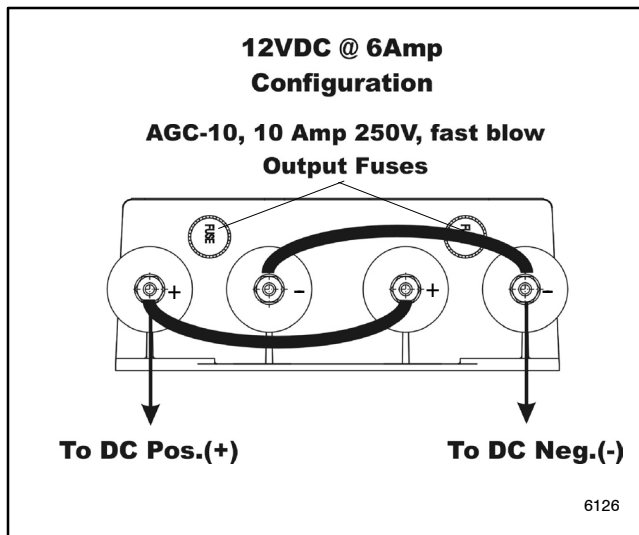
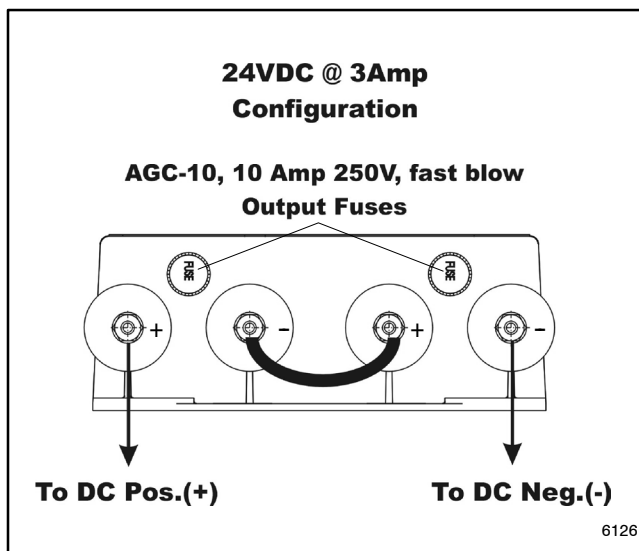

Figure 6-4 12-Volt Battery Charger Connections
Figure 6-5 24-Volt Battery Charger Connections
8. Connect the jumpers as shown in Figure 6-4 for a 12-volt system or Figure 6-5 for a 24-volt system, reconnecting the jumper lead for 24-volt systems as shown. Place the jumper lead terminal between the two flat washers on the battery charger terminal.
Note: Battery chargers are configured for 12-volt systems at the factory. For 24-volt systems, reconnect the jumper lead as shown in Figure 6-5 and discard the second jumper lead.
9. Connect the battery cables as shown in Figure 6-4 for 12 VDC systems or Figure 6-5 for 24 VDC systems.